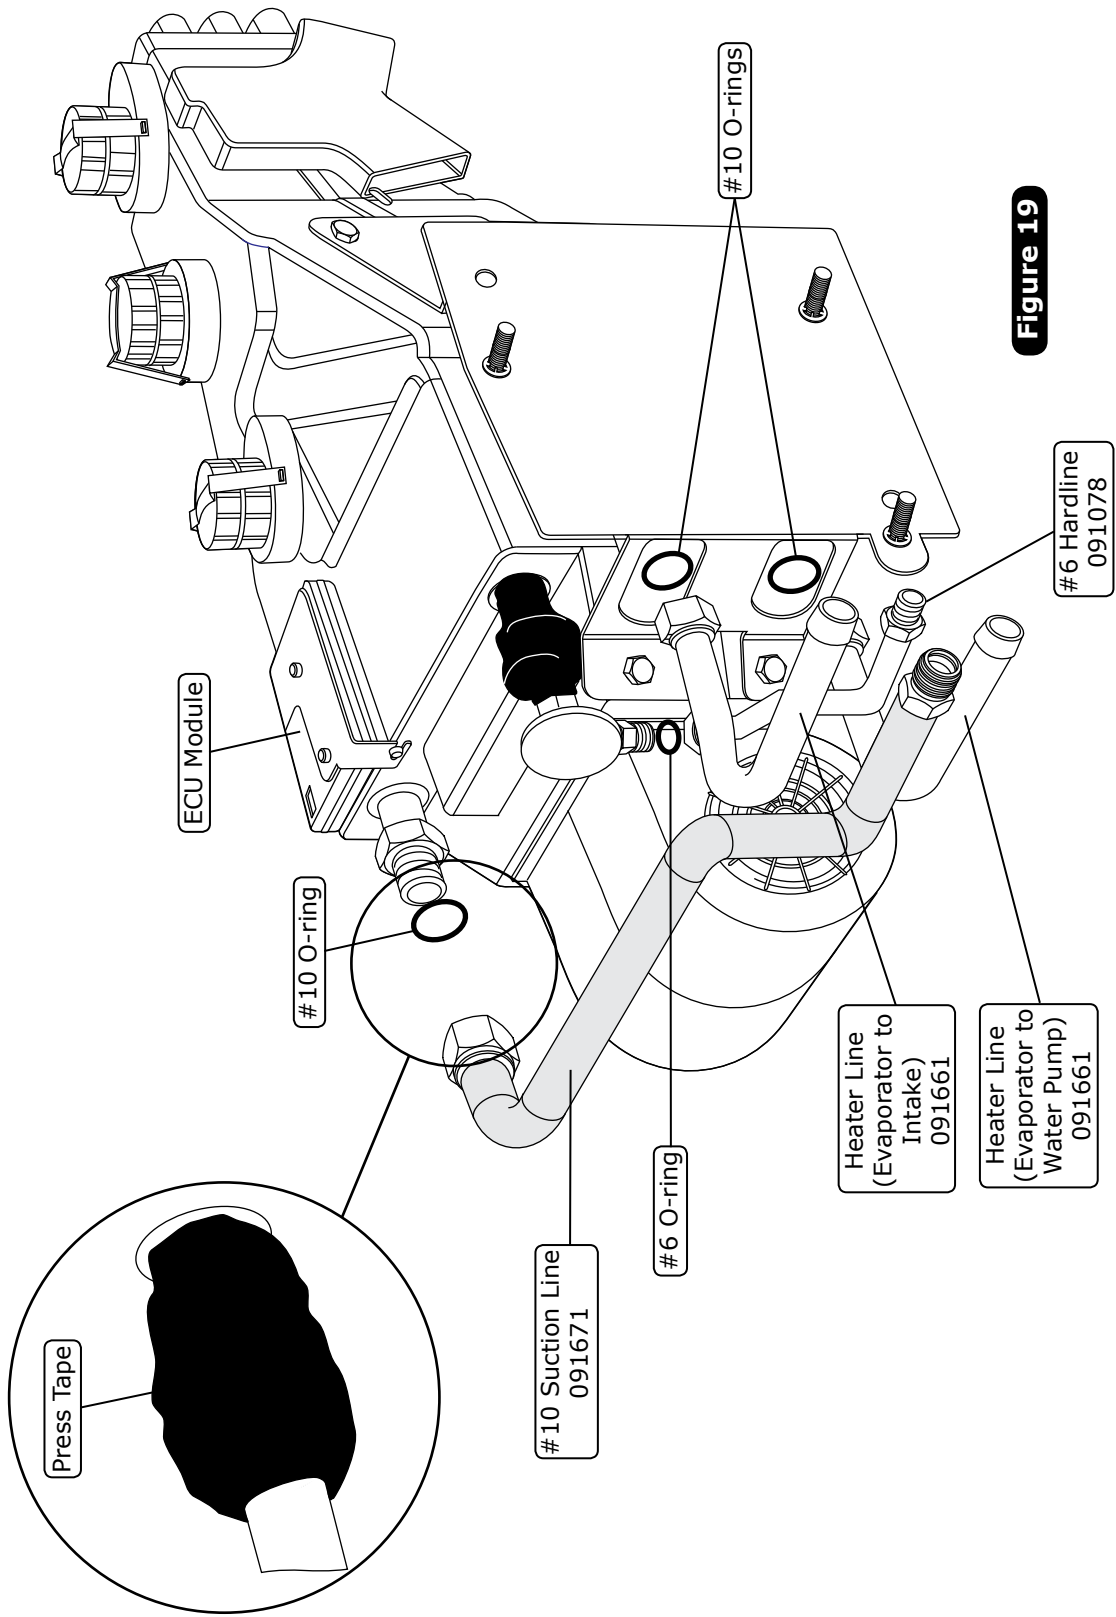

**Figure 18**
1. Install the duct hoses as shown in Figure 18, Page 18.
4. Plug the wiring harnesses into the ECU module on the sub case as shown in Figure 18, Page 18. Wire according to the wiring diagrams on Pages 20 & 21.